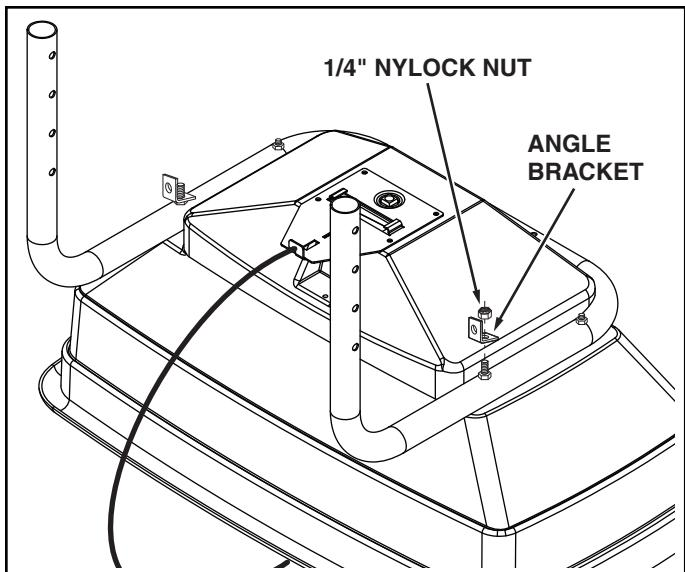

FIGURE 1
1. Turn the spreader upside down as shown in figure 1.
2. Assemble two angle brackets and two 1/4" nylock nuts onto the ends of the longer bolts already assembled to the frame tube. **Do not tighten yet.** See figure 1.